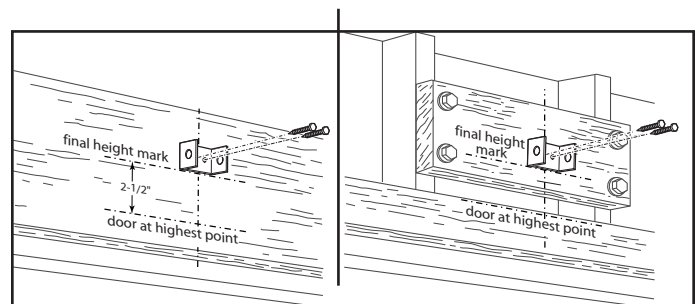

FIG. 2-3 Header bracket mounting (on header & above header)
NOTE: If header bracket location needs to be above header for garage door opening, you need to add a "mounting surface." A 2" x 6" board securely attached (board and fasteners not included) to wall studs on either side of your mark is sufficient (**Fig. 2-3**).
- Hold header bracket against wall (**Fig. 2-3**).
- Fasten header bracket with 2 lag screws (provided) (**Fig. 2-3**).